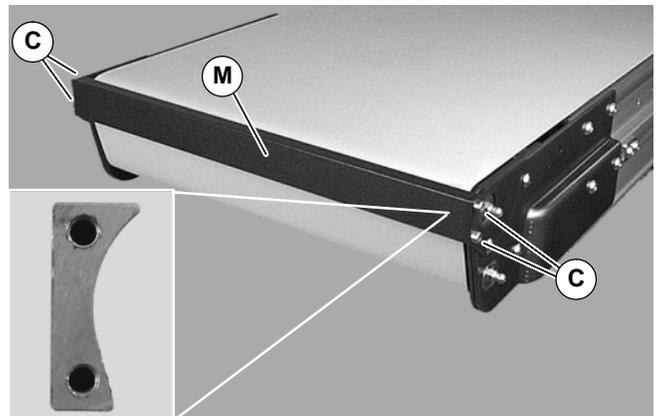

Figure 14
4. Install transfer plate (M of Figure 14) with wide side up (see detail). While maintaining clearance between transfer plate and conveyor belt, tighten screws (C) to 36 in-lb (4 Nm).